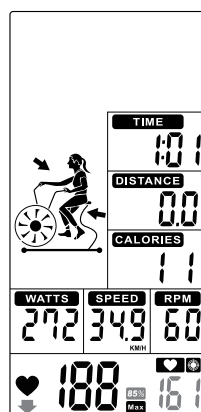

Figure 48
- ⑤ When Heart Rate exceeds to 85%,  & **85%** & value will flash. And buzzer sounds in every 10s until user HR goes below 85% (Figure 48).